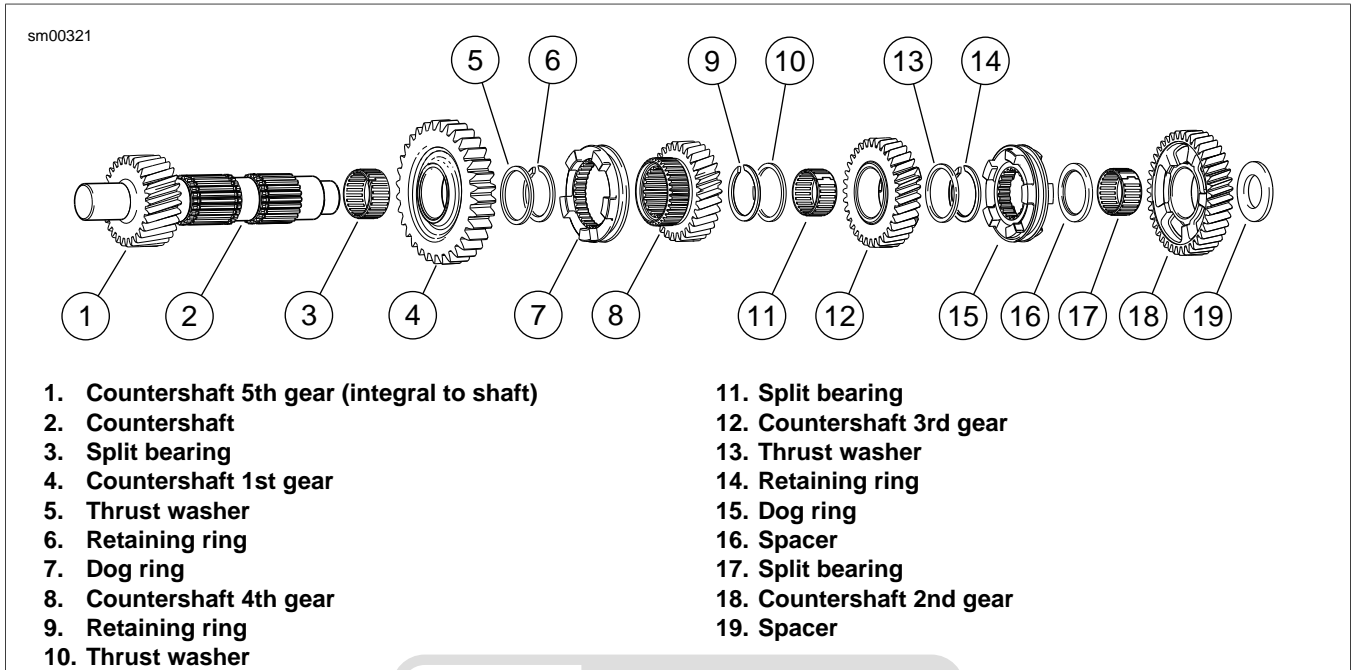

Figure 5-65. Transmission Countershaft
1. See Figure 5-65. Install **new** split bearing (3) in 1st gear position on mainshaft.
2. Install 1st gear (4) and thrust washer (5).
3. Using RETAINING RING PLIERS (Part No. J-5586-A), expand and install **new** retaining ring (6).
4. Install dog ring (7) onto 4th gear (8). Now install dog ring and gear assembly onto countershaft.
5. Expand and install **new** retaining ring (9).
6. Install thrust washer (10).
7. Install **new** split bearing (11) in 3rd gear position on mainshaft.
8. Install 3rd gear (12) and thrust washer (13).
9. Expand and install **new** retaining ring (14).
10. Install dog ring (15). Make sure to install with dog ring facing same direction as when it was removed.
11. Install spacer (16).